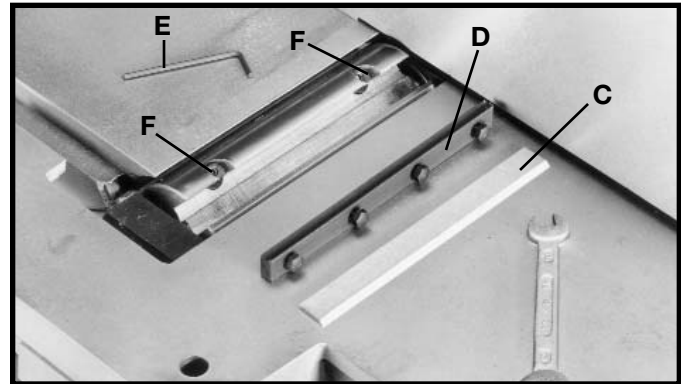

Fig. 55
4. Fig. 55, shows the knife (C) and knife locking bar (D) removed from the cutterhead. Remove the remaining two knives and locking bars, in the same manner.
5. Using wrench (E) Fig. 55, lower the two knife adjustment blocks by turning screws (F) counterclockwise in all three slots of the cutterhead.
7. Replace the knife locking bars (D) Fig. 55, and knives (C) into each slot in the cutterhead.